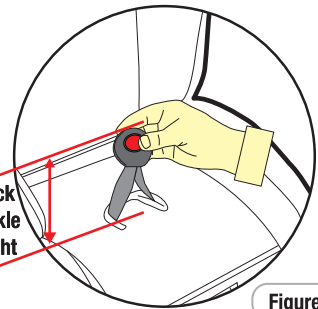

Figure 1
**Step 1:** Place the restraint in desired upright or reclined position, with the back against the back of the vehicle seat, directly in line with the anchorage point (refer Figure 1).